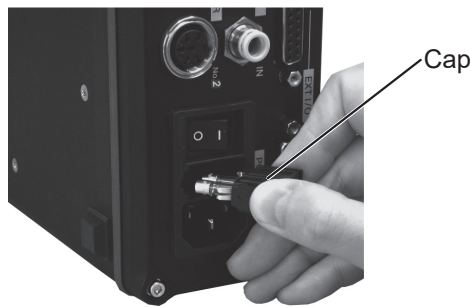
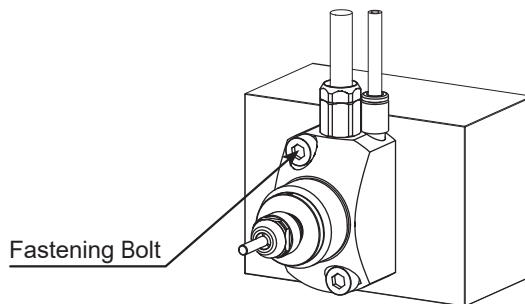

Fig. 7
Fig. 27
(1) Insert the motor spindle housing diameter section into the machine's tool plate bore.
(2) Secure the motor spindle through the counter-sunk holes (2 locations) on the flange face using bolts as shown in Motor Spindle Operation Manual Fig. 2, Fig. 4, Fig. 6 and Fig. 7. Refer to table 3 and Fig. 27.